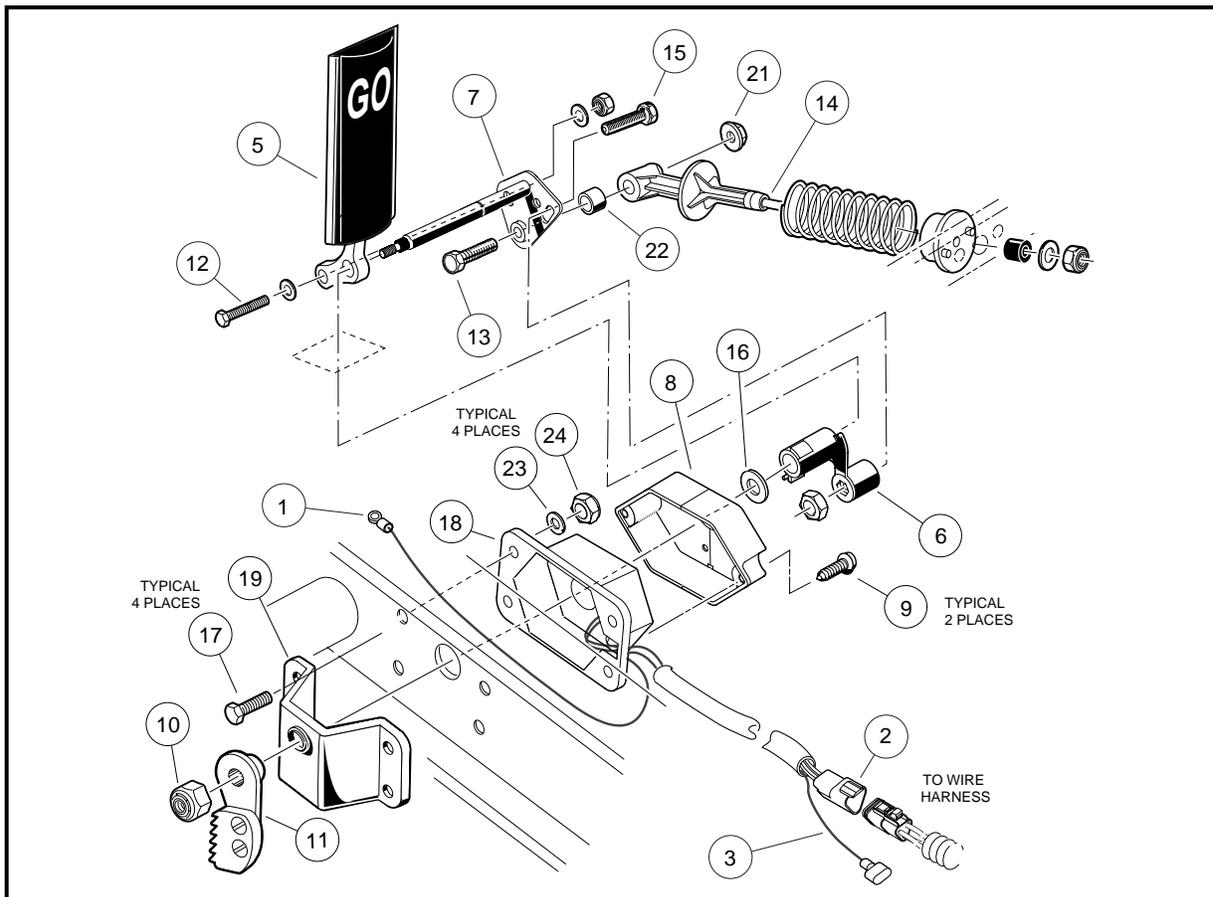

Figure 12-11 Continuously Variable Potentiometer
4. Disconnect the 18 gauge blue wire (1) from the key switch (**Figure 12-11, Page 12-15**).
5. Unplug pin connector (2) which connects potentiometer to wire harness (**Figure 12-11, Page 12-15**).
6. Disconnect 18 gauge green/white wire (3) at the quick disconnect terminal (**Figure 12-11, Page 12-15**).
7. Remove the potentiometer housing cover (8) by removing two No. 4 screws (9) (**Figure 12-11, Page 12-15**).
8. Remove the 3/8 in. lock nut (10) on the ratchet (11) (**Figure 12-11, Page 12-15**).
9. Remove the 3/8 in. bolt (12), two washers, and nut attaching the accelerator pedal (5) to the accelerator pivot rod (7) (**Figure 12-11, Page 12-15**).
10. Remove 1/4 in. bolt (13) and nut (21) attaching spring retainer (14) to accelerator pivot rod (**Figure 12-11, Page 12-15**).
11. Remove 1/4 in. bolt (15), washer and nut attaching actuator lever (6) to accelerator pivot rod (**Figure 12-11, Page 12-15**).
- THERE IS A NYLON WASHER (16) BETWEEN THE ACTUATOR LEVER AND THE POTENTIOMETER HOUSING (18) (**FIGURE 12-11, PAGE 12-15**).
13. Remove the four 1/4 in. bolts (17), washers and nuts attaching the potentiometer housing (18) and the pivot rod support (19) to the frame (**Figure 12-11, Page 12-15**).
1. Position the potentiometer housing (18) and pivot rod support (19) on the frame and install the four 1/4 in. bolts (17) with washers and nuts (**Figure 12-11, Page 12-15**). **See following NOTE.**
2. Install the pivot rod (7), with accelerator pedal (5), actuator lever (6), and nylon washer (16), into the potentiometer housing (**Figure 12-11, Page 12-15**). **See following NOTE.**
4. Install the spring retainer (14) onto the pivot rod (7) (**Figure 12-11, Page 12-15**).
- WHEN REASSEMBLED, THE BOLT (13), BEARING (22), AND NUT (21) MUST BE ORIENTED EXACTLY AS SHOWN (**FIGURE 12-11, PAGE 12-15**). FAILURE TO DO SO COULD RESULT IN UNEXPECTED VEHICLE ACCELERATION.
5. Position the ratchet (11) on the end of the pivot rod (7) so there is approximately an .060 in. \pm .030 in. gap between the pawl and the ratchet teeth (this can be verified with a feeler gauge) (**Figure 12-11, Page 12-15**).
6. Install and tighten nut (10) to 18 ft.lb (24.4 N-m) (**Figure 12-11, Page 12-15**).
7. Connect the 18 gauge blue wire (1) to the key switch (**Figure 12-11, Page 12-15**).
9. Connect pin connector (2) from potentiometer to lead from wire harness (**Figure 12-11, Page 12-15**).
10. Plug the 18 gauge green/white wire (3) to F&R limit switch No.1 (**Figure 12-11, Page 12-15**).